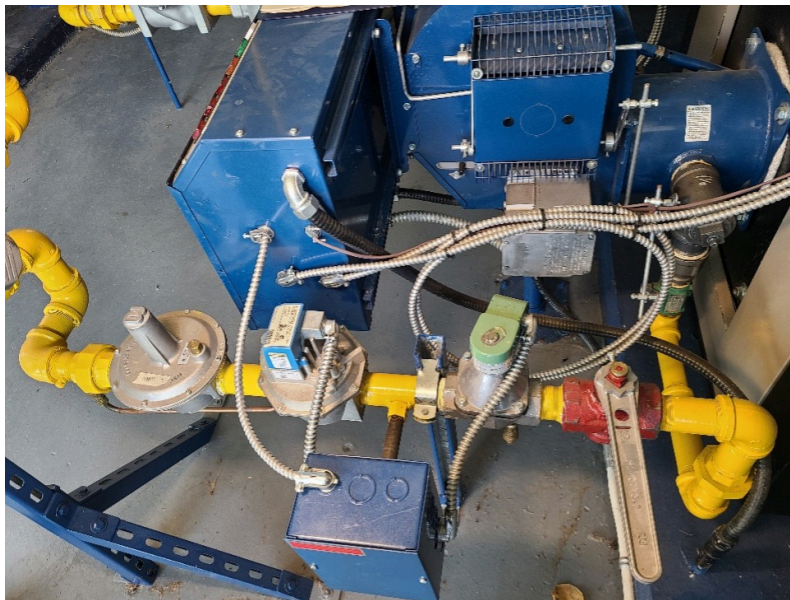

Figure 12. Field assembled valve train
The series of controls and components from the appliance main shut-off valve to the appliance burner is called the valve-train or manifold assembly. The components of the valve train are used to manually and automatically start, stop and regulate the gas flow to the appliance. On larger gas appliances, generally over 400 MBH, the valve train components downstream of the manual shut-off valve (Figure 12) will be field assembled as they are not an integral part of the appliance. For these installations the requirement for valve train components and their assembly are identified in the separate CSA B149.3 gas code.
- Figure 12. “Field assembled valve train” by Rod Lidstone is licensed under a CC BY-NC-SA licence.